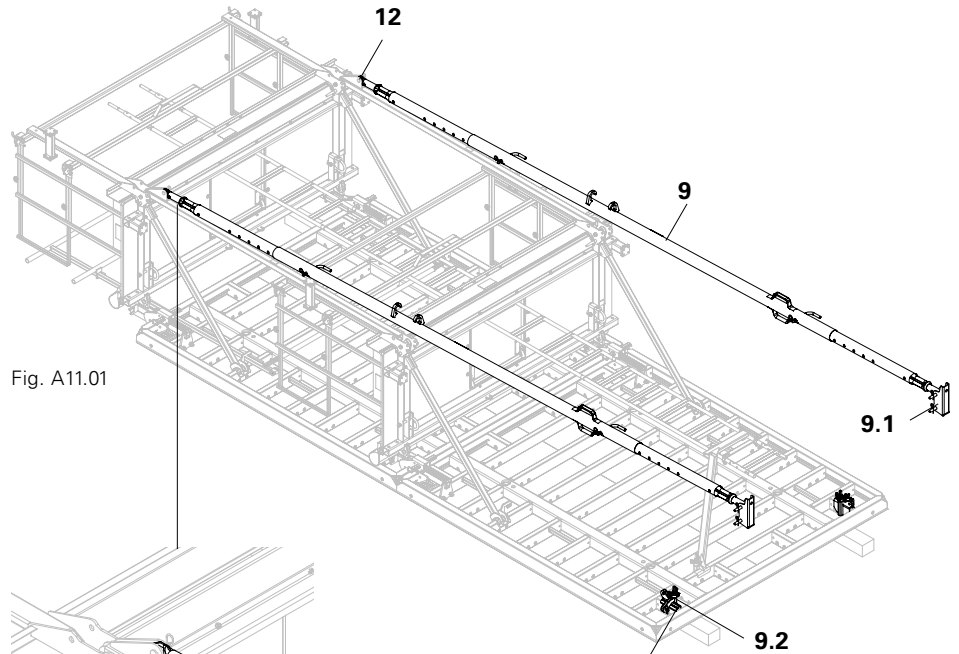

Fig. A11.01
1. Attach Base Plates (9.1) to the Push-Pull Props (9) by means of bolts.
2. Attach Push-Pull Props to Connector for Platform or Lattice Struts (12) with bolts. (Fig. A11.01 + A11.01a)